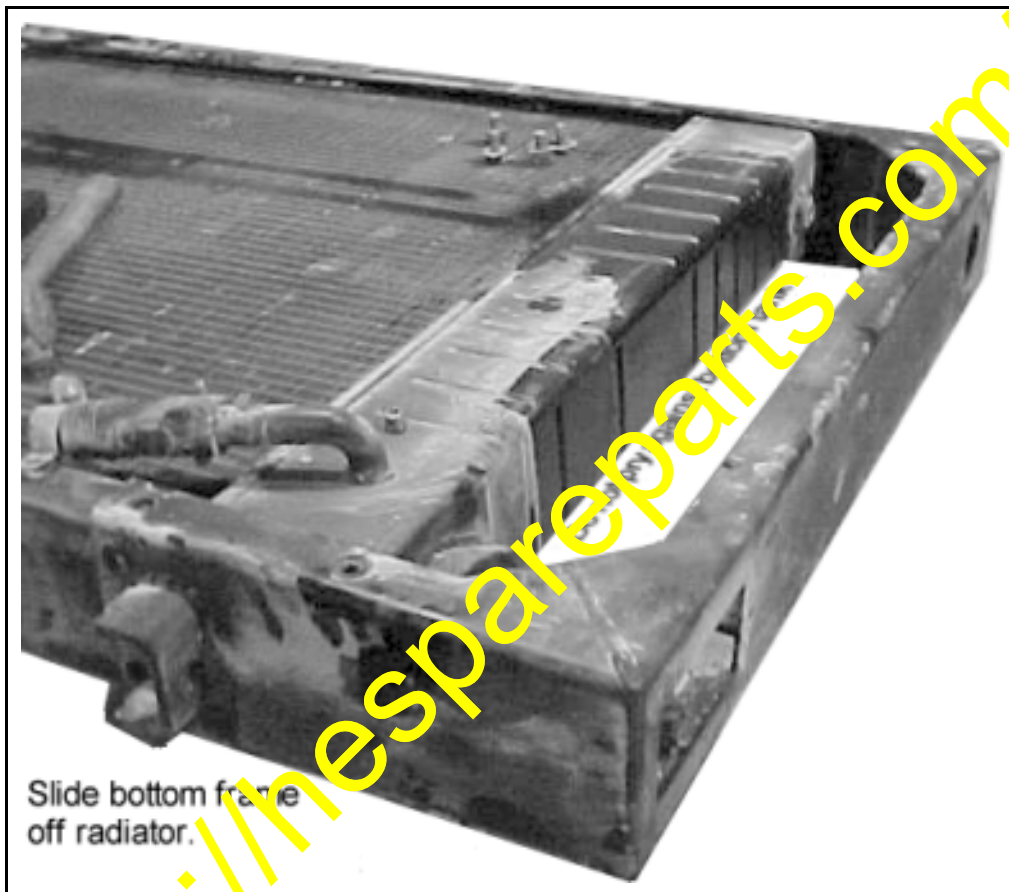

Figure 5 Bottom Frame Removal
3. As shown in Figure 5, remove the tank from the bottom frame.